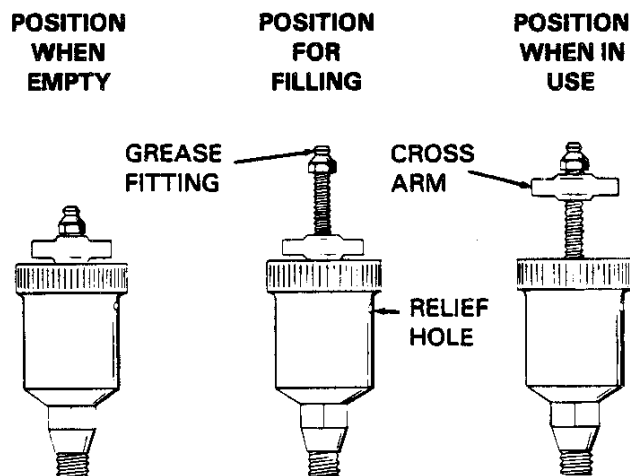

Figure 3. Automatic Lubricating Grease Cup
Fill the grease cup (7) through the grease fitting with No. 2 lithium base grease until grease escapes from the relief hole. Turn the grease cup arm counterclockwise until it is at the top of the stem; this will release the spring to apply grease to the seal (see Figure 3).